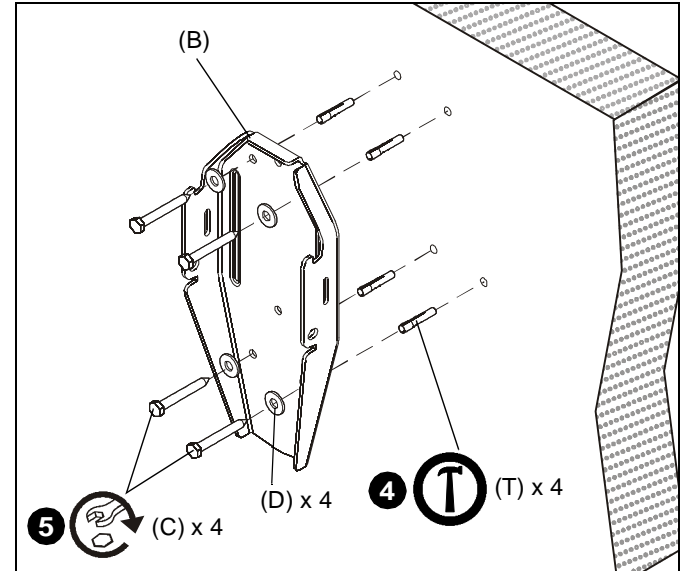

Figure 2
4. Install four concrete anchors (T) into drilled holes. (See Figure 2)
5. Install four 5/16 x 2-1/2" hex head lag screws (C) through four 5/16" washers (D), outer holes of wall bracket (B) and into concrete anchors (T). (See Figure 2)